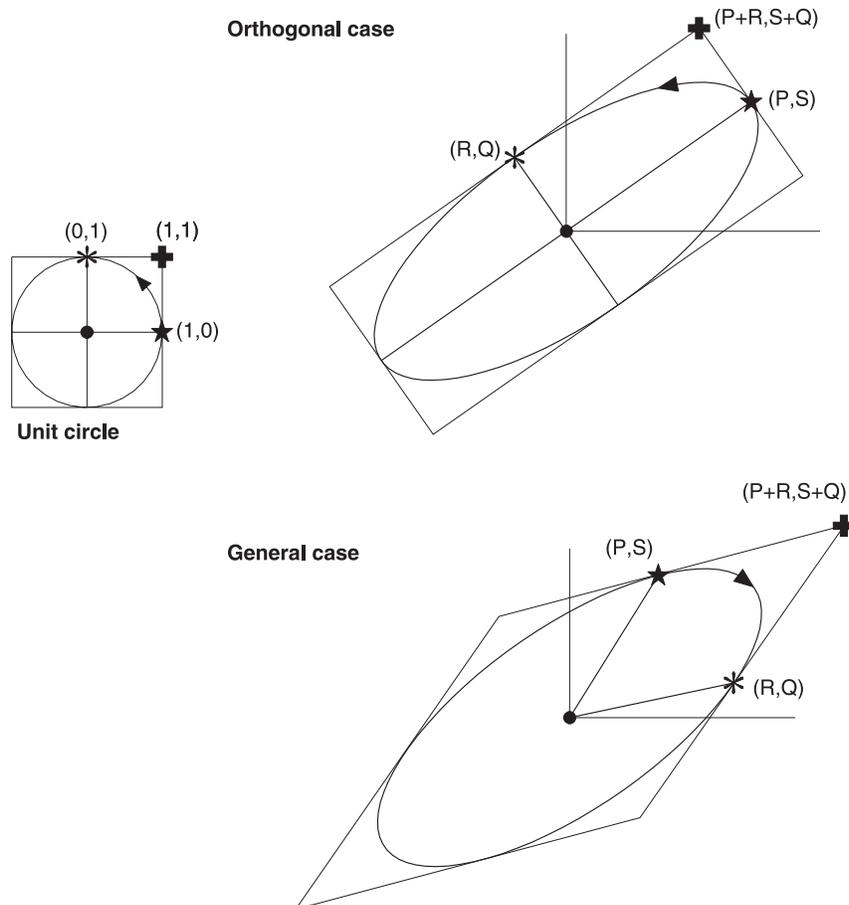

Figure 183. Ellipse parameters
- ELLIPSE** Draws an ellipse, using the specified *x* and *y* coordinates for the end of the major and minor axes. The ellipse will be drawn with the specified or default linewidth and linetype, and will be filled if you specify a fill pattern. See Figure 183 on page 237 for a diagram.